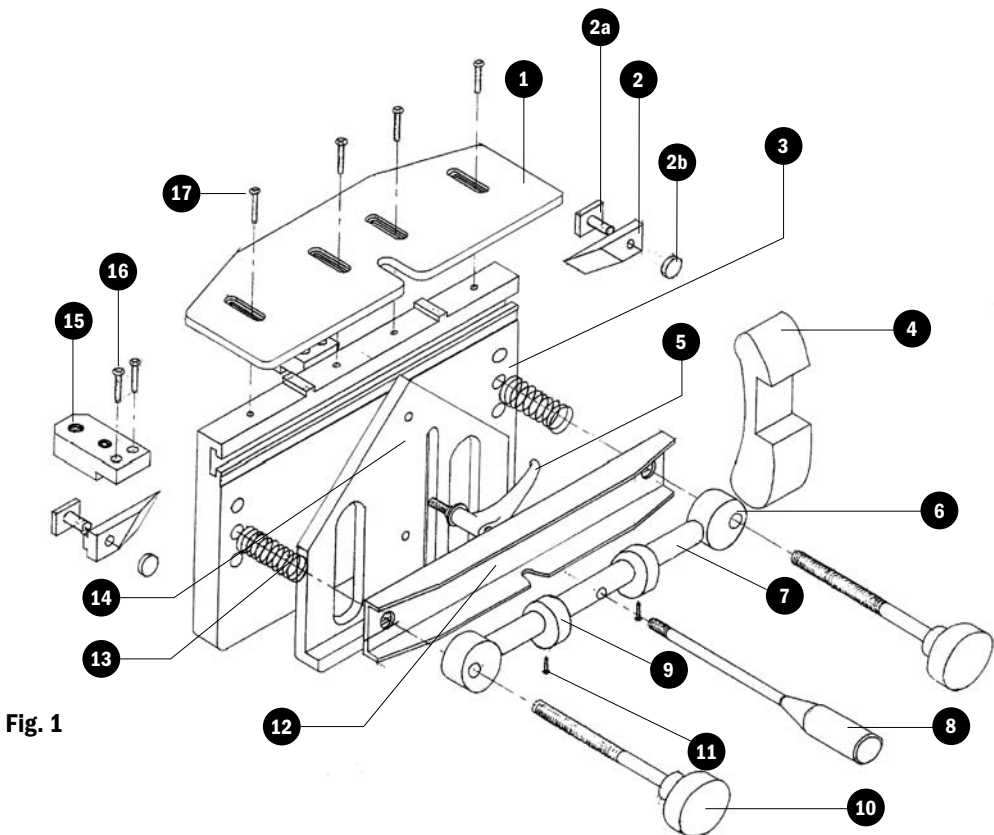

Fig. 1
Refer to figure 1:
The **CMT-ENLOCK1** is designed to be screwed to the workbench through holes in the support feet (**Fig. 1, pos. 15**). Ensure that the unit is stable and securely fixed in place before use.